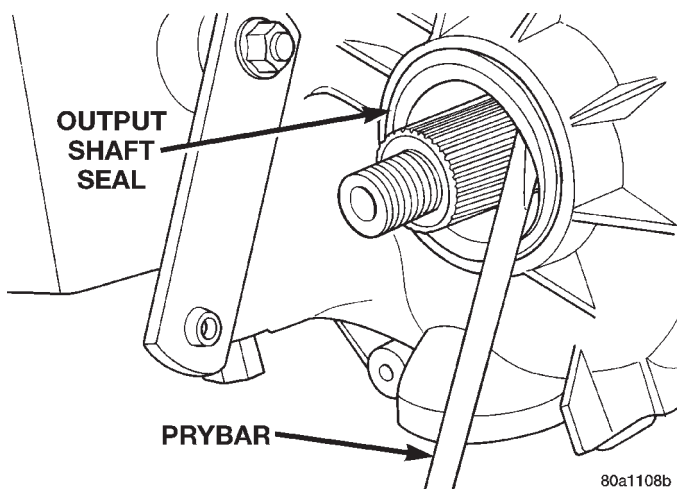

Fig. 40 Remove Front Output Shaft Seal
(1) Remove front output shaft seal from front case with pry tool (Fig. 40).